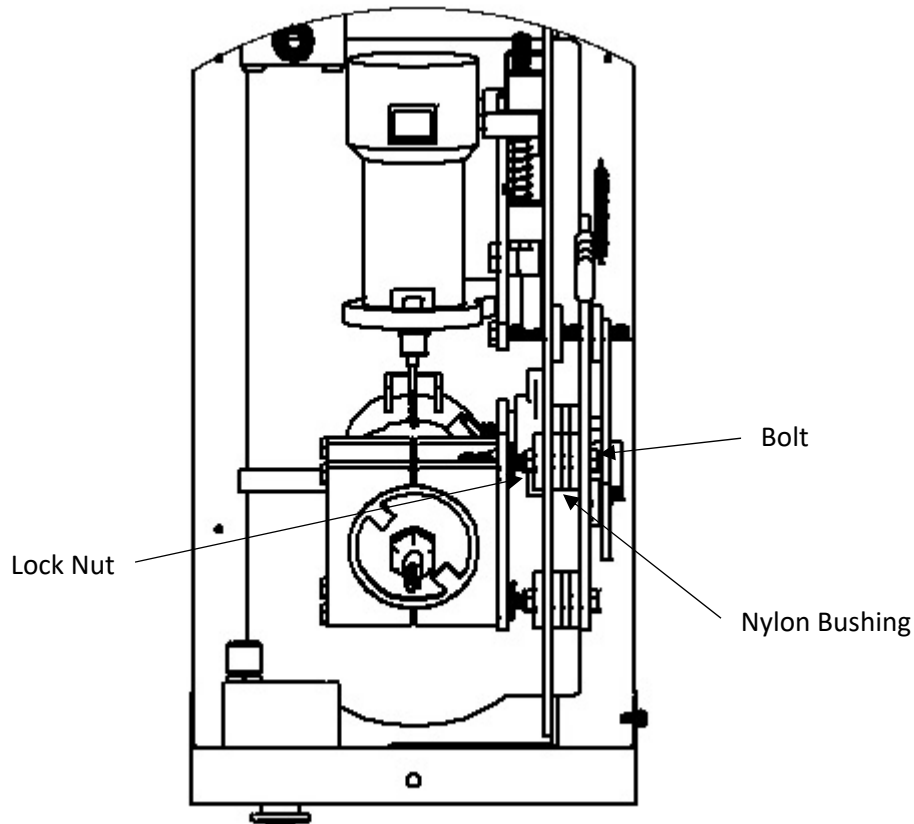

Figure 26: Guide Arm Adjustment (Top view with cover removed)
1. Loosen the lock nut (Figure 26).
2. Tighten bolt (Figure 26) until slight resistance can be felt when rotating the nylon bushing (Figure 26) by hand.